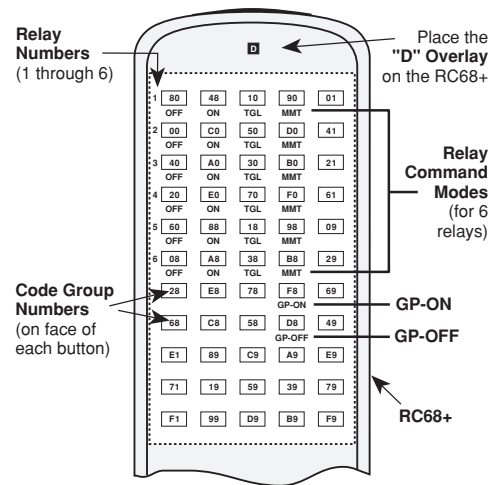

Fig. 2 RC68+ Programmer
The RC68+ Programmer (available separately) contains all commands necessary to operate the CC62 (see Fig. 2).
APPLICABLE RC68+ BUTTON DESCRIPTIONS (With the "D" Overlay. Refer to Fig. 2)
1. Be sure each is set to a different IR Code Group to prevent mutual interaction. Refer to **Fig. 2** and the **RC68+ Programmer Instructions** for Code Group setting procedures.